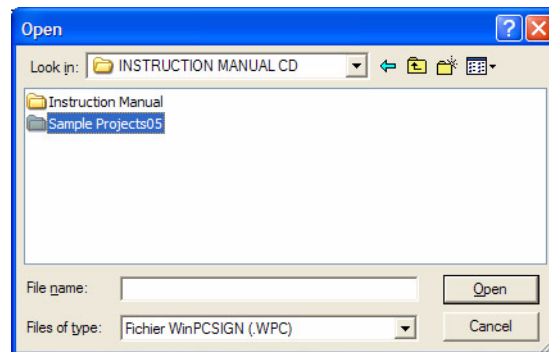

Figure 42
- 4 Double-click on the **Sample Projects** folder. See figure 42.